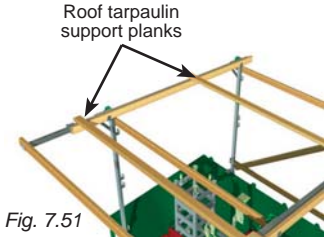

Fig. 7.51
- 2- Slide a taper pin from right to left in each clamp-end tube and secure in place with a hitch pin clip. Secure each grip end tube to the deck by tightening the bolt at the bottom (fig. 7.51).
- 2- Install 2" x 4" (5 cm x 10 cm) support planks at intervals on top of the roof section (fig. 7.51, p. 86). Make sure that there isn't any plank installed over the locking devices and that the sliding tubes can be retracted if necessary. Secure the planks with nails or screws to the planks attached to the roof structure.